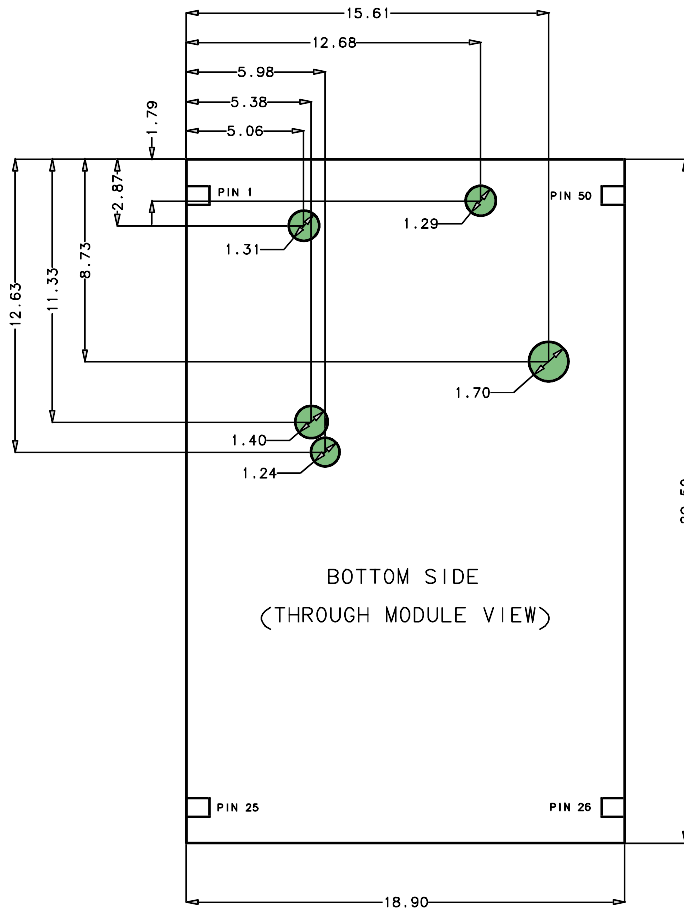

Figure 48: Signals keep-out below data module on application motherboard due to GND opening on data module bottom layer for internal RF signals
2. Signals Keep-Out below module on Application Motherboard due to GND opening on LEON-G100/G200 bottom layer for internal RF signals (see Figure 48).